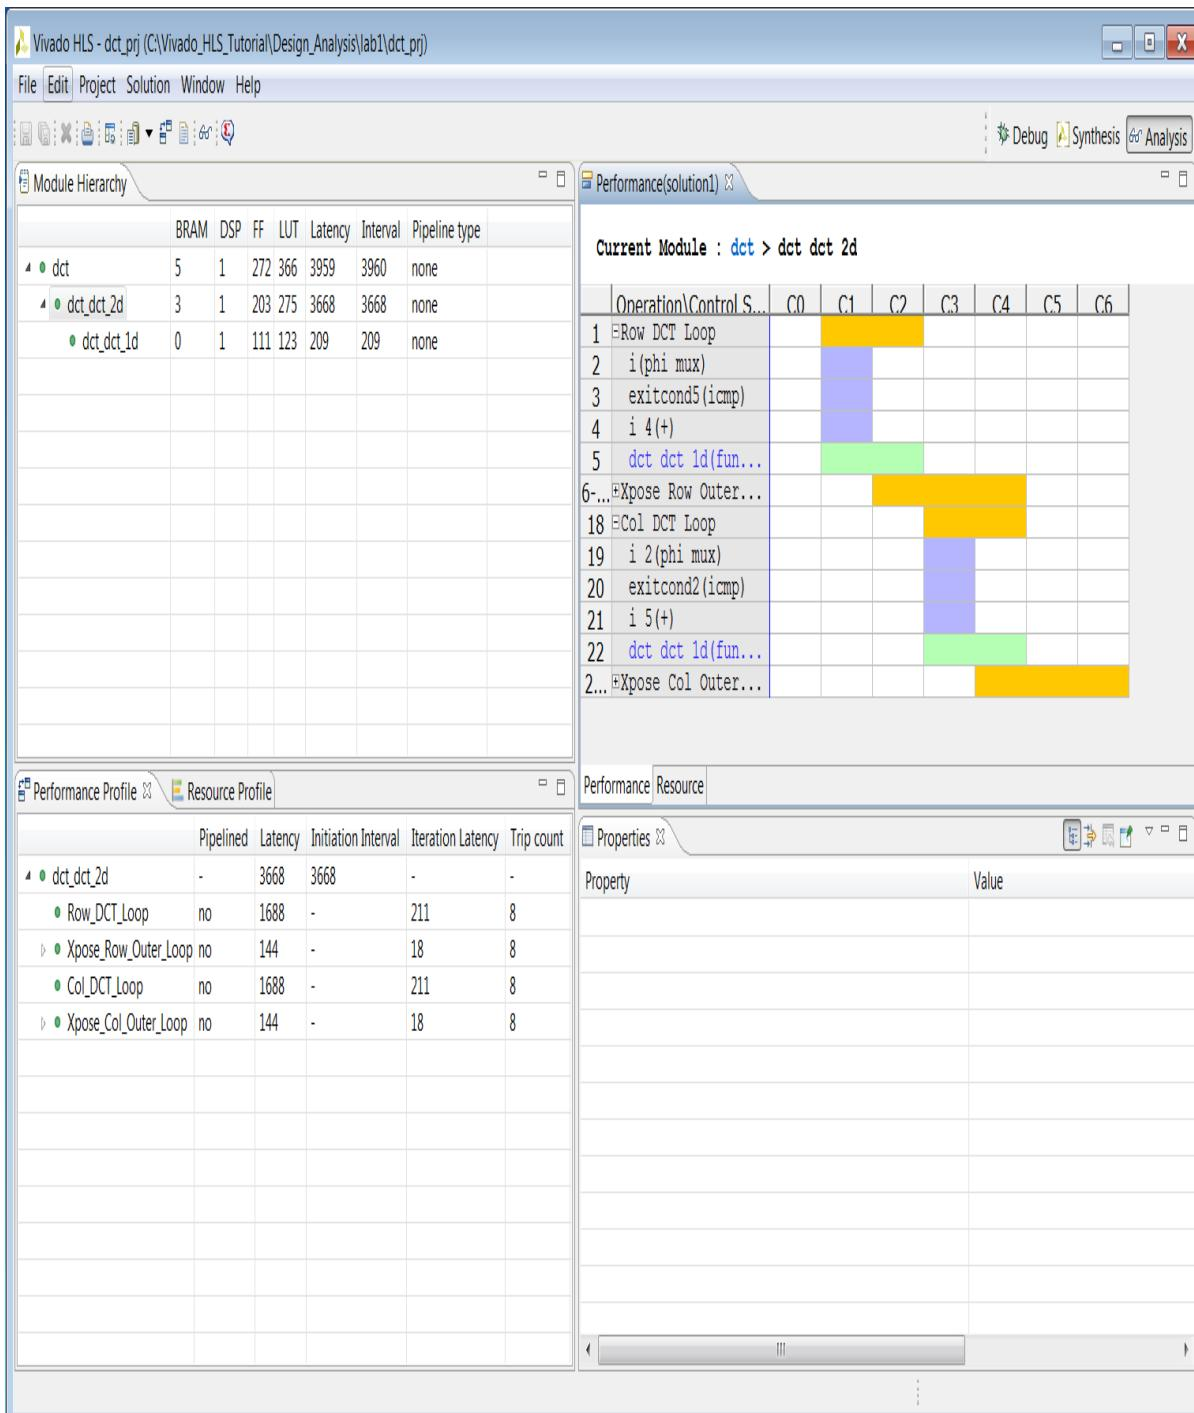

Figure 6-11: DCT_2D Performance View
6. In the **Module Hierarchy** pane, click the function `dct_2d` to navigate into the view for this function (Figure 6-11).
In the Performance Profile you can see that the latency of all the loops has been substantially reduced (Row_DCT_Loop and Col_DCT_Loop have been approximately halved from the earlier report in Figure 6-11). However, the majority of the latency is still due to these two loops, each of which calls the `dct_1b` block.